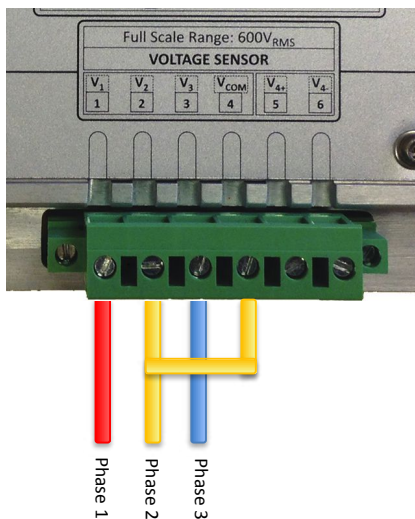

Figure 27: Vecto II 3-wire delta connection
- 1) Connect Phase 1,2 and 3 to Voltage Inputs 1-3 as shown in the Figure 27.